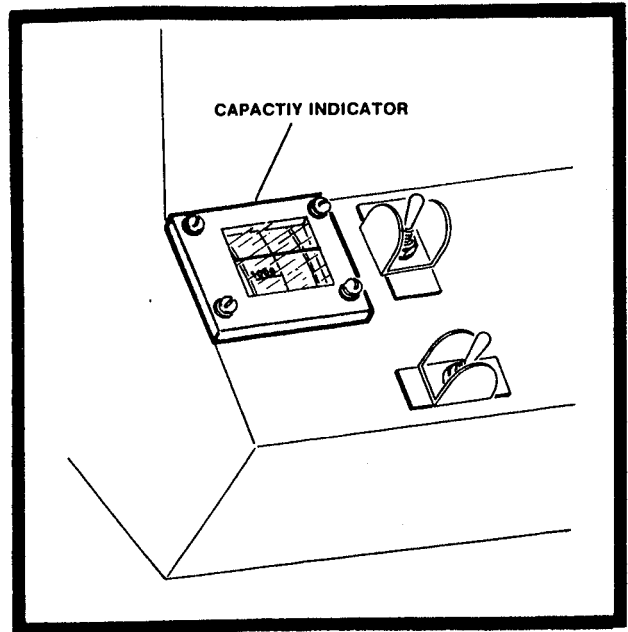

Figure 4-1. Capacity Indicator.
- (1). The platform maximum rated capacity is shown on the capacity indicator. Platform loading must be done only when the machine is positioned on a firm uniform and level surface.
- (2). It is recommended when additional weight is to be added in an elevated and extended mode that the boom be positioned to a maximum elevation prior to loading. When additional weight is to be added in a less fully elevated mode, the boom must be fully retracted and then extended only when the boom is fully elevated. Always ensure that maximum capacity as shown on capacity indicator is not exceeded. (See Figure 4-1.)